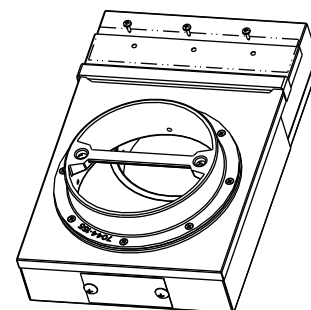

Figure 40.5
4. Cut the gasket to the proper length and slide in between the upper and lower chambers centered on the screw holes. Attach the upper and lower chambers with screws provided. **Figure 40.5**.